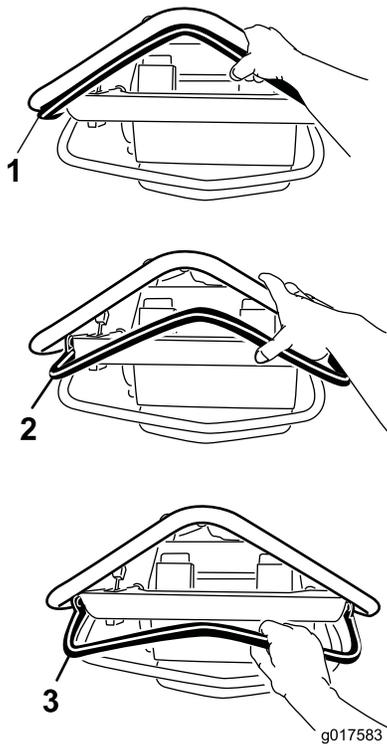

Figure 15
- To move forward, press the control lever forward (Figure 15). The further forward you push it, the faster the machine will travel.
- To move in reverse, pull the control lever rearward (Figure 15). The further rearward you pull it, the faster the machine will travel.
- To stop, release the control lever (Figure 15).